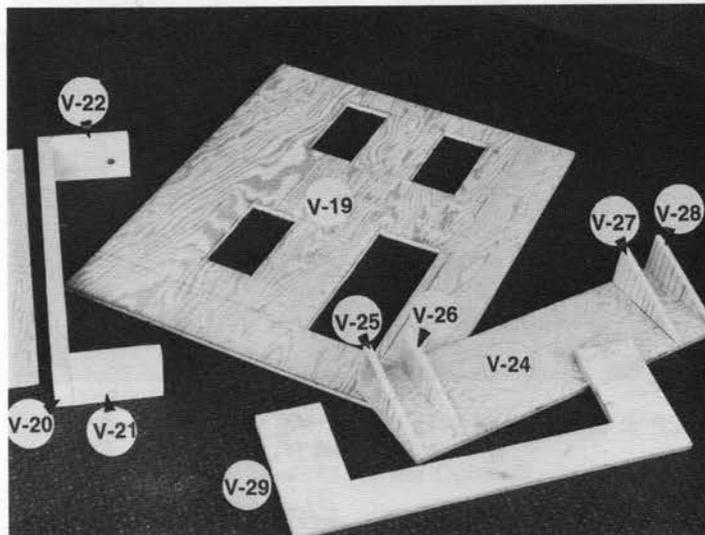

Fig. 9
STEP 9: Using your square, carefully mark part V-19 with all assembly locations as shown on the plan sheet. Pre-assemble parts V-20, V-21, and V-22. Also pre-assemble parts V-24 through V-28. (FIGURE 9).